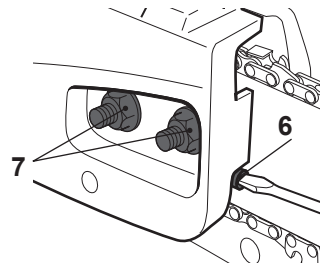

Fig. 13
- > Lift up the tip of the guide bar (4) and keep it there as you adjust the tension.
- > Turn the tension screw (6) until the chain “tie straps” are just touching the bottom edge of the guide bar (4) (Fig. 13).